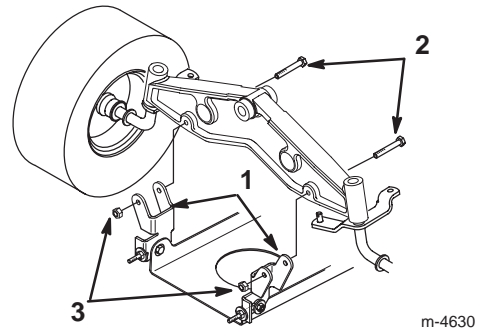

Figure 39
14. Remove the bolts and locknuts and pull the 2 mower pivot mount brackets down from the front axle (Fig. 39).